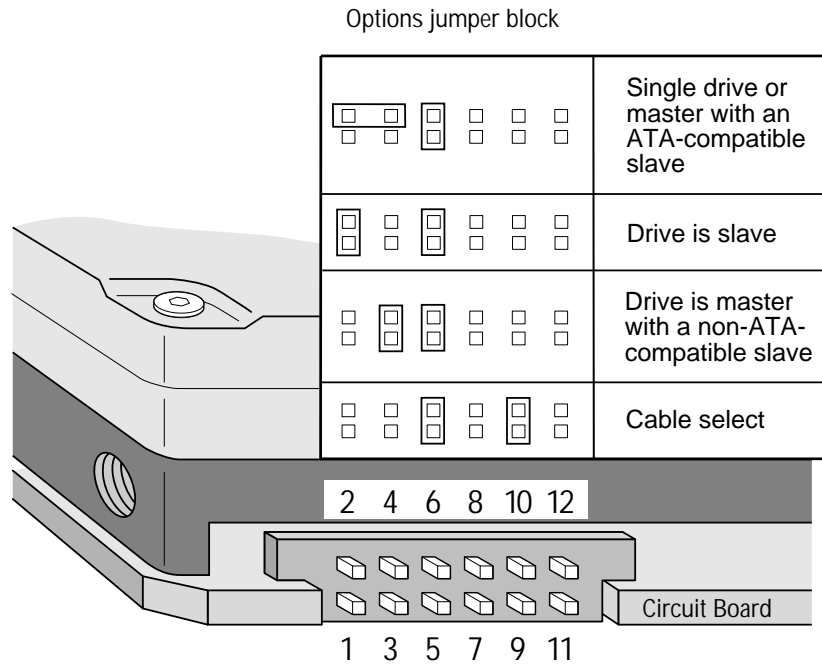

Figure 4. Options jumper block settings
The jumper settings for these options are shown in Figure 4 on page 20. A spare jumper that can be used to configure the drive is attached to pins 2 and 4. This pin combination does not affect any drive function. If you need additional jumpers, use Seagate part number 13211-001 or an equivalent.
- Install jumpers on pins 9 and 10 as shown in Figure 4 on page 20.